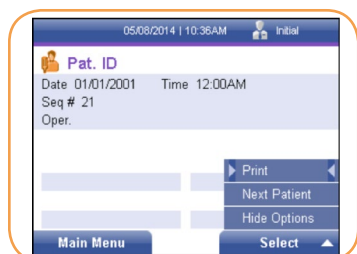

FIGURE 44
1. To print patient results, press the right soft key to select Options. The Option menu will be displayed (Figure 44).